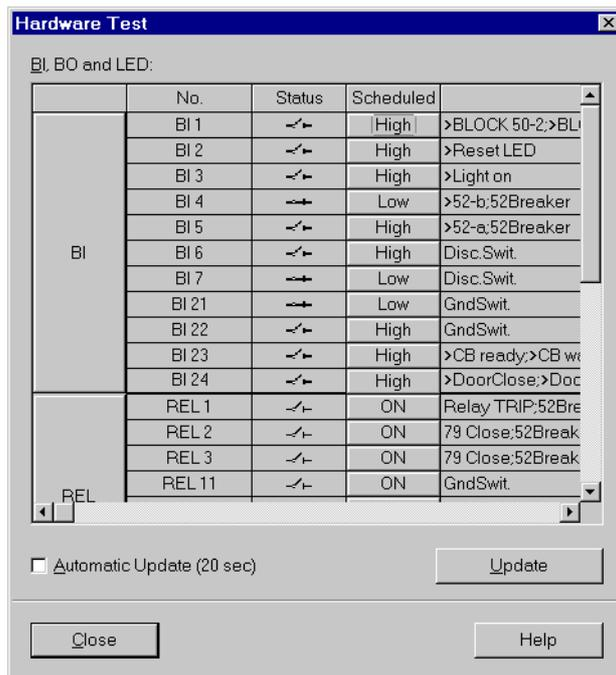

Figure 8-26 Dialogue box for hardware test — example
- Double-click in the list view on **Hardware Test**. The dialogue box of the same name opens (see Figure 8-26).